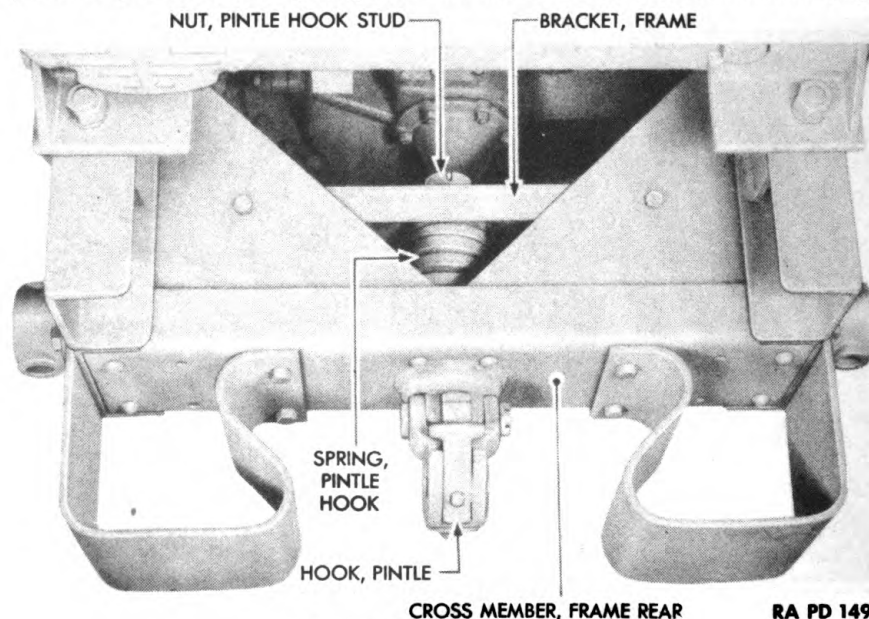

Figure 80—Pintle Hook
(1) Place pintle hook spring back of frame rear cross member (fig. 80)